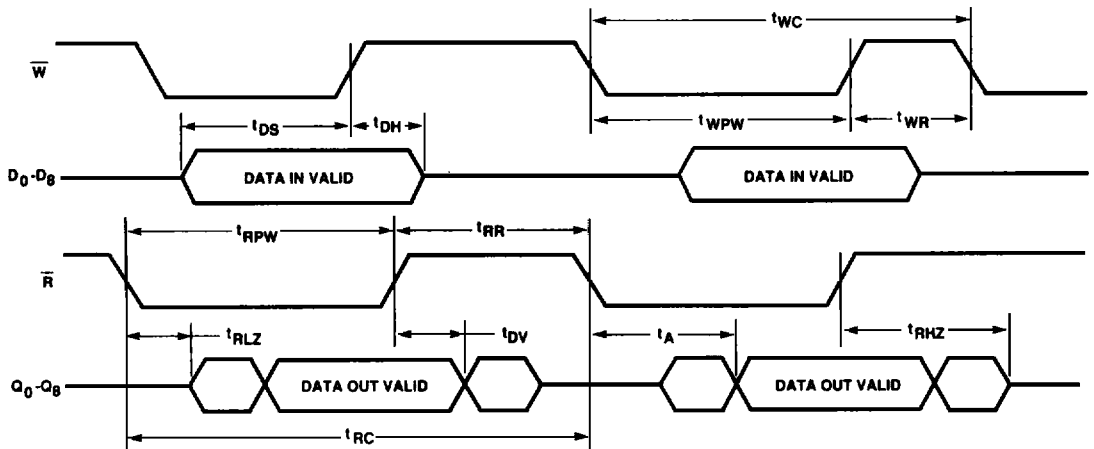

Figure 3. Asynchronous Write and Read Timing
The HIGH state of the Full Flag (\overline{FF}) indicates that the FIFO is capable of accepting data. The falling edge of Write (W) initiates a write cycle. (See Figure 3.) Data appearing at inputs D0-D8 t_{DPS} prior to and t_{DIN} after the rising edge of W will be stored sequentially in the FIFO.
The HIGH state of the Empty Flag (\overline{EF}) indicates that the FIFO is ready to output data. The falling edge of Read (R) initiates a read cycle. (See Figure 3.) Valid data appears on the outputs Q0-Q8 t_A after the falling edge of R, and remains until t_{OV} after the rising edge of R. Q0-Q8 return to a high-impedance state when a valid read is not in progress.